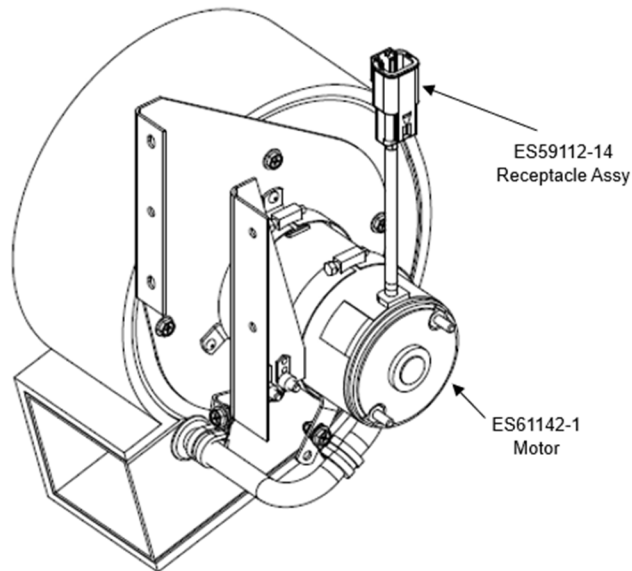
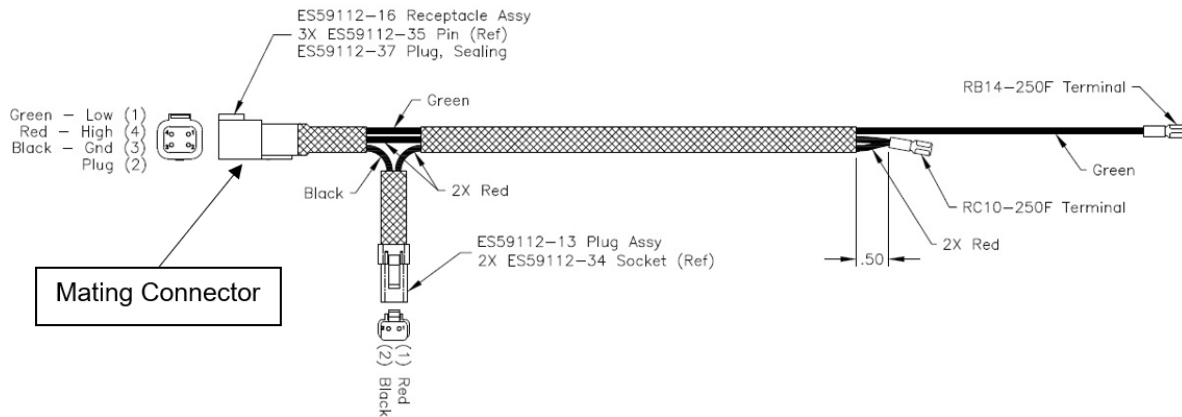

Figure 1: Aft Evaporator Blower Assembly EC135-6844-2
Figure 2: Wire Harness Assembly EC135-8010-5
7. After installing or converting to P/N EC135-6844-2 (Figure 1), remove the existing harness and install the new Wire Harness Assembly EC135-8010-5 (Figure 2). This harness connects to the blower, as shown in Figure 3.
8. Locate the existing Molex connector on the aircraft-side leading to the relay panel. The new aircraft-side Deutsch connector ES59112-15 will plug into the mating connector of the Wire Harness Assembly shown in Figure 2.